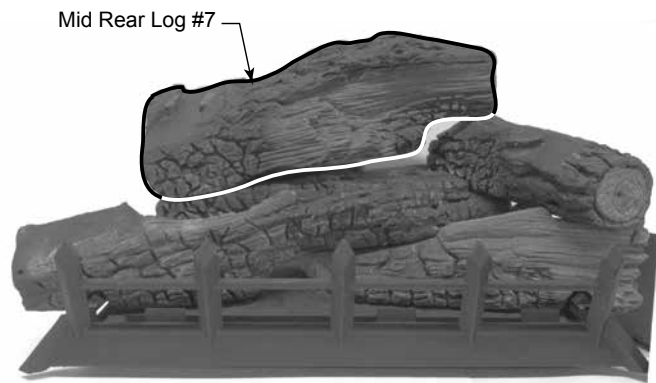

Figure 6.22 - Log #7 Placement
- Place mid rear log (#7) on bottom rear log (#1) and mid right log (#6) by placing notch on bottom of log onto locating block on log #1. Right side of log will rest on log #6. See Figure 6.22.